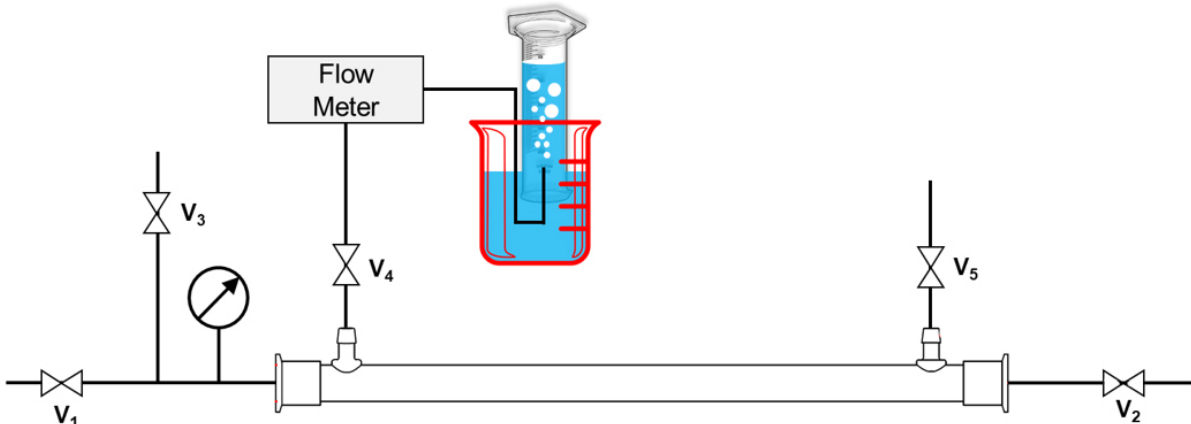

Figure 6: Diffusive Flow Test Schematic.
Figure 6. Typical TOC flush results for a gamma irradiated SepraPor® hollow fiber microfiltration capsule filter (Part No. XFCM20C124-7722; EFA 0.085 m²) showing the power function curve fit for the three lots tested.
1. A system setup for performing the Diffusive Flow Test is shown in Figure 6.